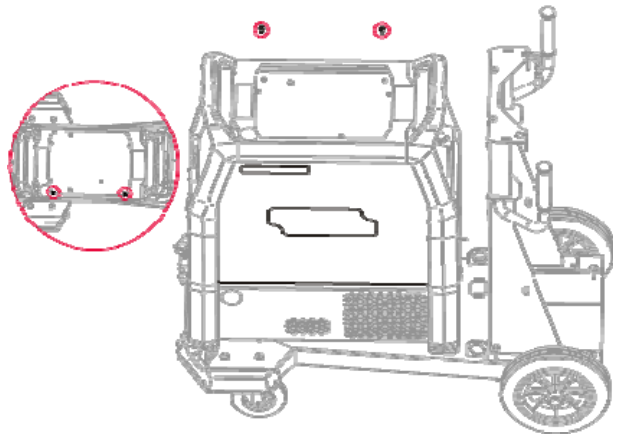

Figure 5
- Place the side panel (Figure 5)
- Assembly the side panel screw the two M5x20 screws (Figure 5)